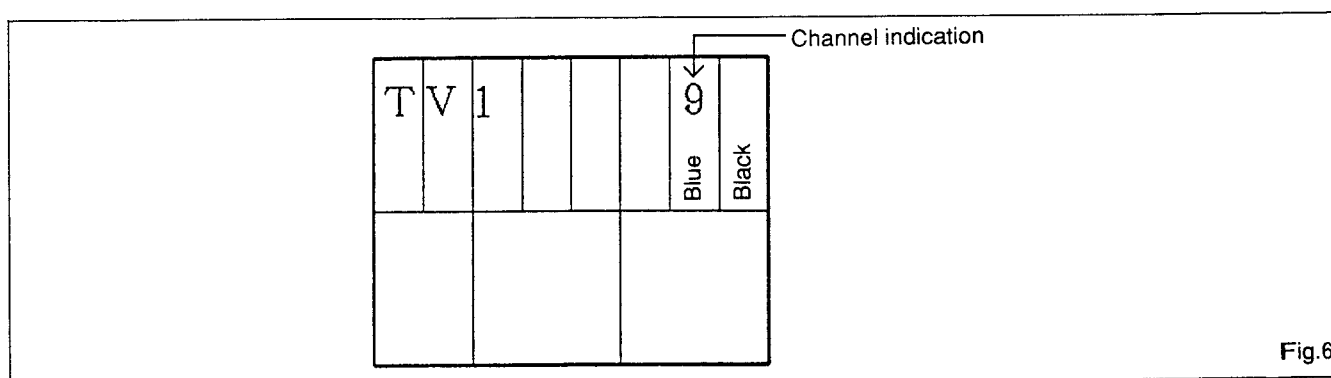

Fig. 6
- (3) Adjust the TC 501 so that receive channel is indicated in the center of blue bar in the split color bar as shown in Fig. 6.